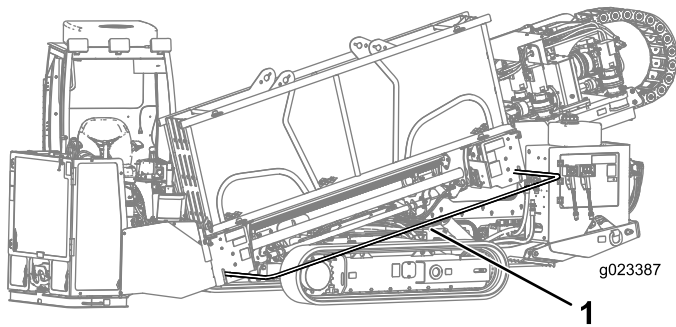

Figure 70
4. Lower the pedestrian safety bar and secure it in place (Figure 70).